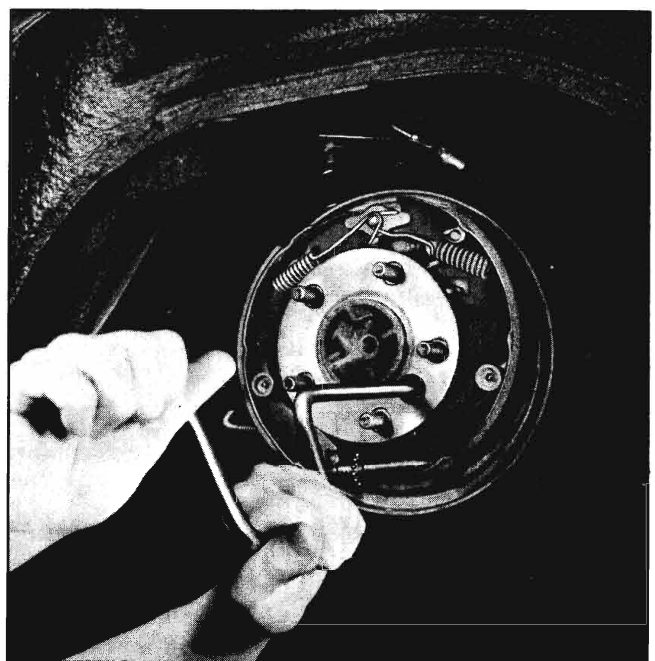

Fig. 3-32 Axle Shaft Flange Holes
4. Line up the hole in axle shaft flange with the nuts retaining backing plate to the lower control arm. Remove these four nuts and lock washers (Fig. 3-32).
yoke is fully attached to U-Bolts. Install U-Bolt nuts and lock tabs. Torque nuts to 14-20 lb. ft. Install the lock washers and nuts through hole in axle shaft flange (Fig. 3-32). Torque nuts to 30-45 lb. ft.